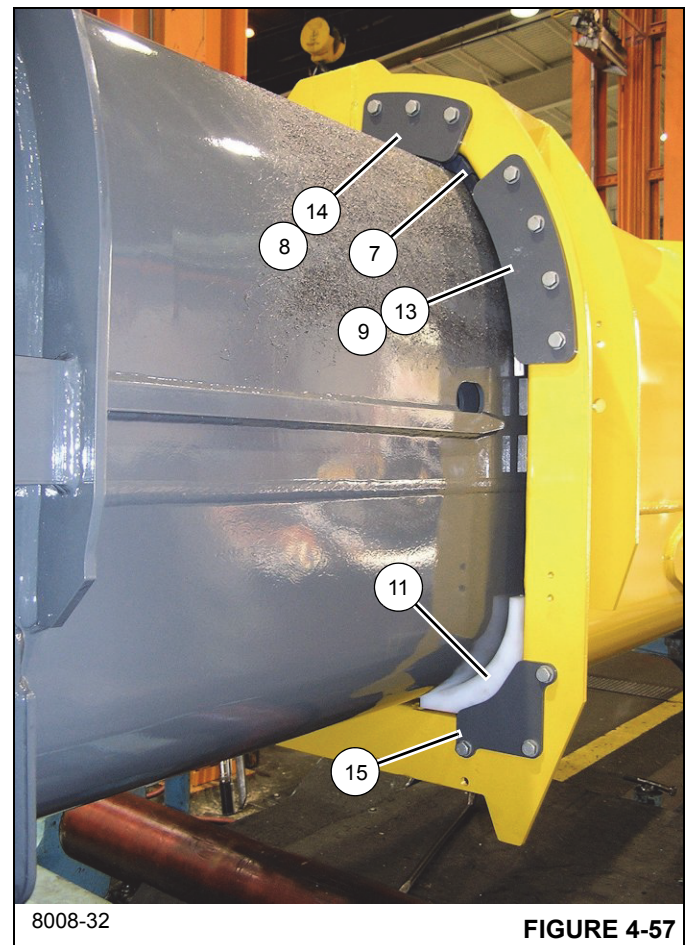

FIGURE 4-57
**115.** Insert tele 1 (2) three-quarters of the way into the base section (1).
**116.** Using an adequate lift and sling, slightly raise the front of tele 1 (2) for the purpose of installing wear pads into the front of the base section (1).
**117.** Install the upper wear pad (11) into the front of the base section (1) using the two bolts (27) and nuts (28) (left and right sides); ensure the thin portion of the upper wear pad (11) is oriented to the side of the base section (1) (see Figure 4-57).
**118.** Install the keeper plate (15) to the front of the base section (1) using the three bolts (19), six flat washers (16), three lock washers (17), and three nuts (18) (left and right sides) (see Figure 4-57).
**119.** Lower tele 1 (2) down onto the newly installed wear pads (11).
**120.** Install the shims (2x-7) and the front lower wear pads (8, 9) into the bottom of the base section (1) (see Figure 4-57).
121. Install the left, right, and bottom keeper plates (2x-14, 13) to the front of the base section (1) using the bolts (19), flat washers (16), lock washers (17), and nuts (18) (see Figure 4-57).